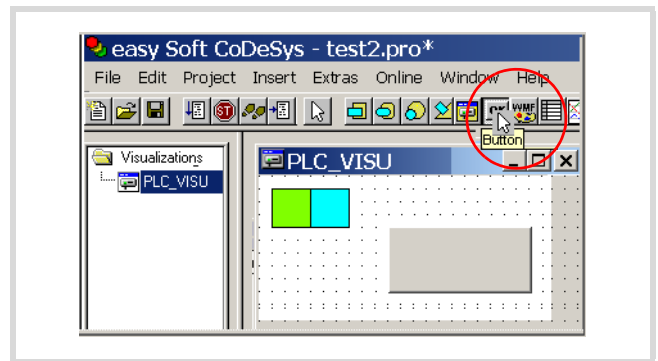

Figure 19: Application with button for changing to the basic menu
- ▶ To change from an application screen to the basic menu, add a button as shown in figure 19 to the application screen.